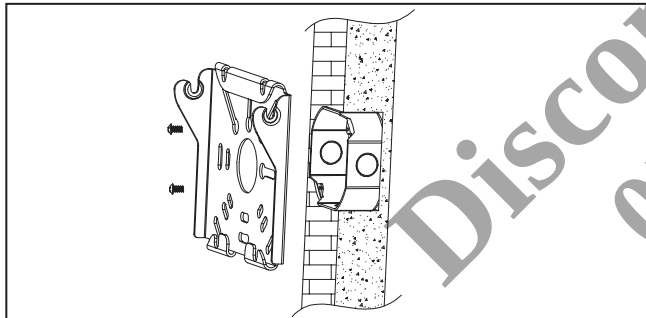

Figure 2.
2. Use mounting screws (not provided) to fix mounting plate to the J-box (not provided). Note the screw hanging hooks should be facing out once installed. (Figure 2)